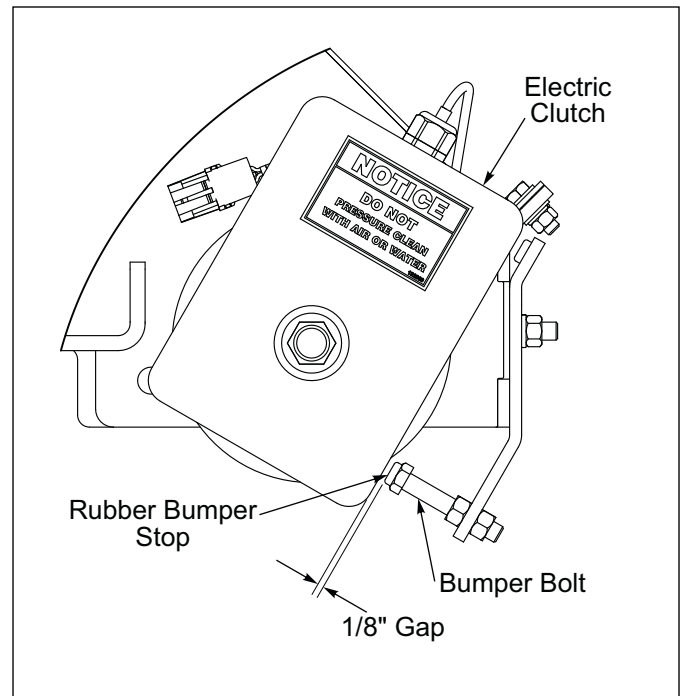

Figure 2-20: Clutch Clearance
1. Verify that the Electric Clutch has 1/8" clearance between the Clutch Housing and Rubber Bumper Stop. Improper clearance may prevent the Clutch from engaging or disengaging. **See Figure 2-20.**